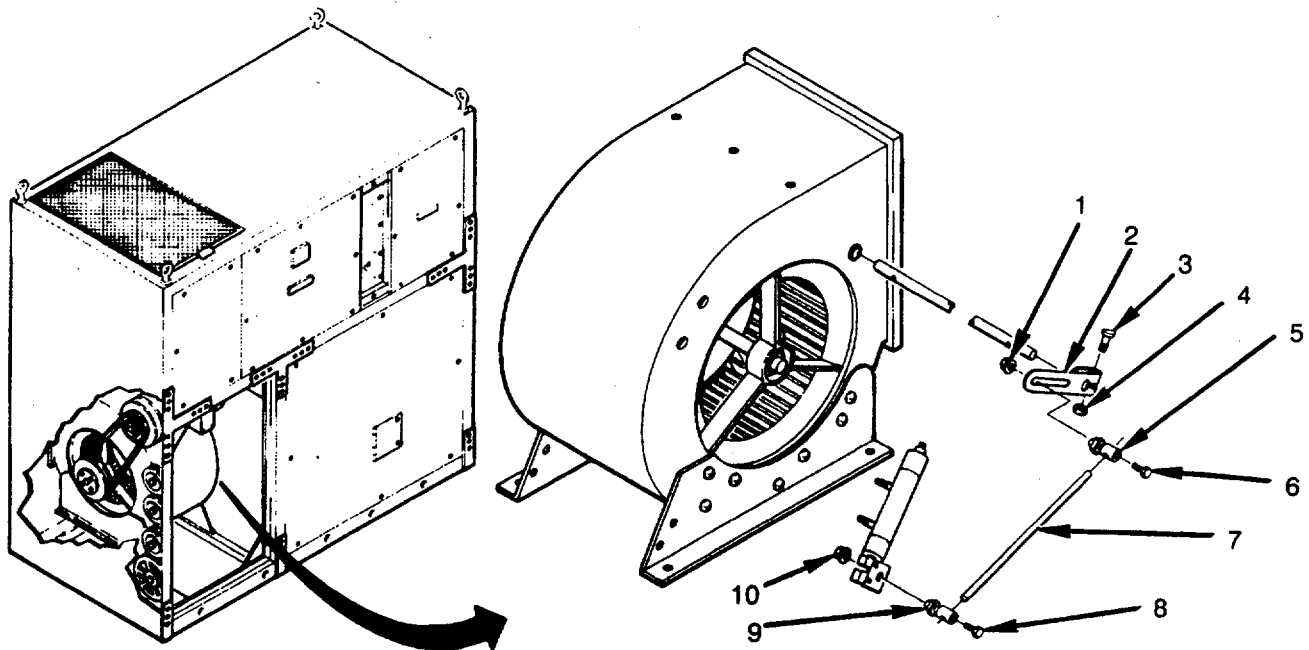

Figure 4-89. Condenser Fan Connecting Link Assembly
1. Check that control rod (7) is not bent or damaged. Replace if damaged (see Figure 4-89).
2. Check that connector swivels (5) and (9) are not damaged. Replace if damaged.